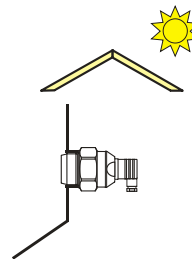

Fig. 4: Shielding cover against direct solar radiation
- In case the installation at places with direct solar radiation is inevitable, it is necessary to mount a **shielding cover** above the sensor (fig.4).